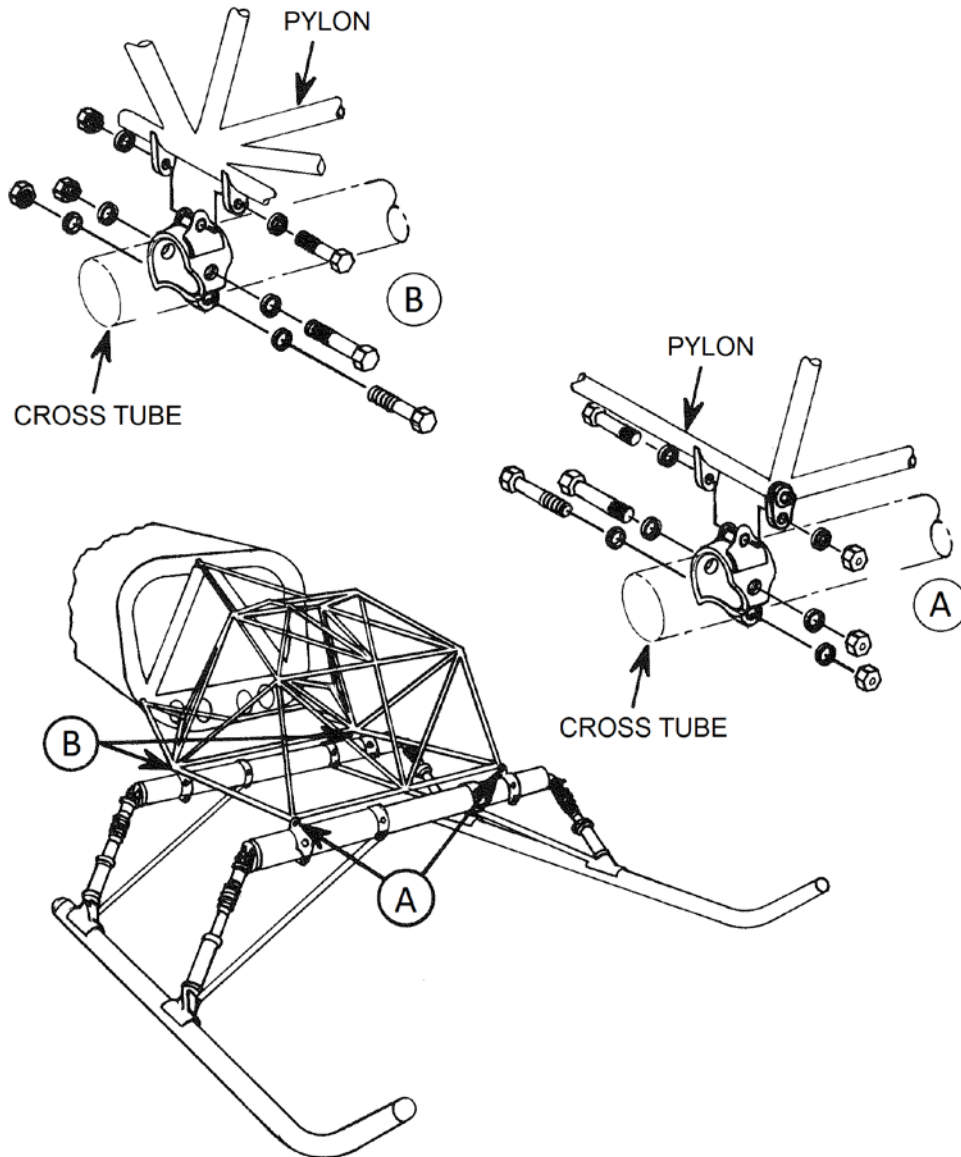

Figure 8-7. Landing Gear to Pylon Attachment
- (c) To remove the landing gear assembly as a unit from the pylon, proceed as follows: (See Figure 8-7)